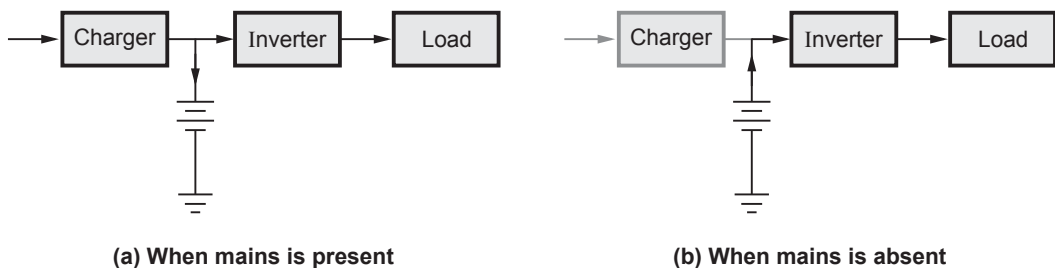

Fig. 6.10.2 Power flow in online UPS
- When the main supply is present, the rectifier/charger provides power to an inverter as well as battery (See Fig. 6.10.2 (a)). The battery is charged. The inverter is on and feeds power to the load through UPS static switch.
- When the mains supply is not available, then battery bank supplies power to an inverter (See Fig. 6.10.2 (b)). Thus an inverter is always on and it takes power from rectifier or battery.
- Fig. 6.10.2 shows the power flow when mains is present and mains is absent.